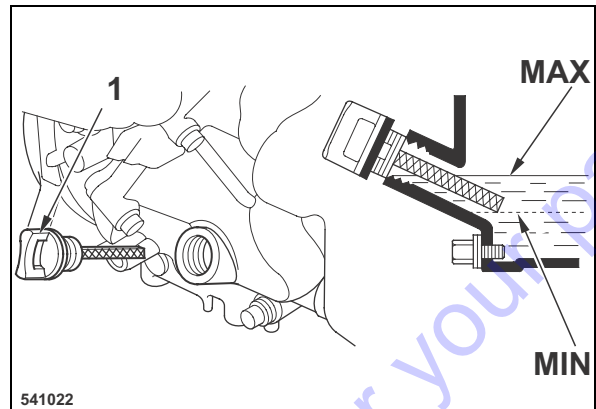

Fig. 37
- The oil level must reach the bottom edge of the filler bore (Fig. 37), top up if necessary.
- Push the oil dipstick (1) back in.